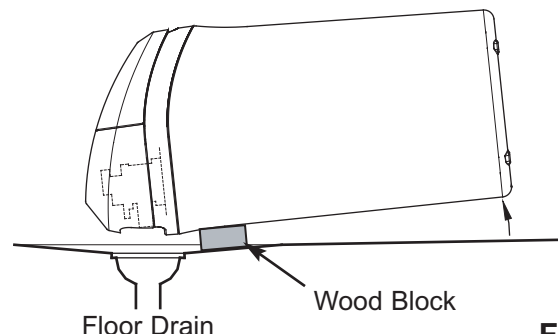

FIG. 43
6. Lay a piece of 2 inch thick board near the floor drain (See Figure 43).